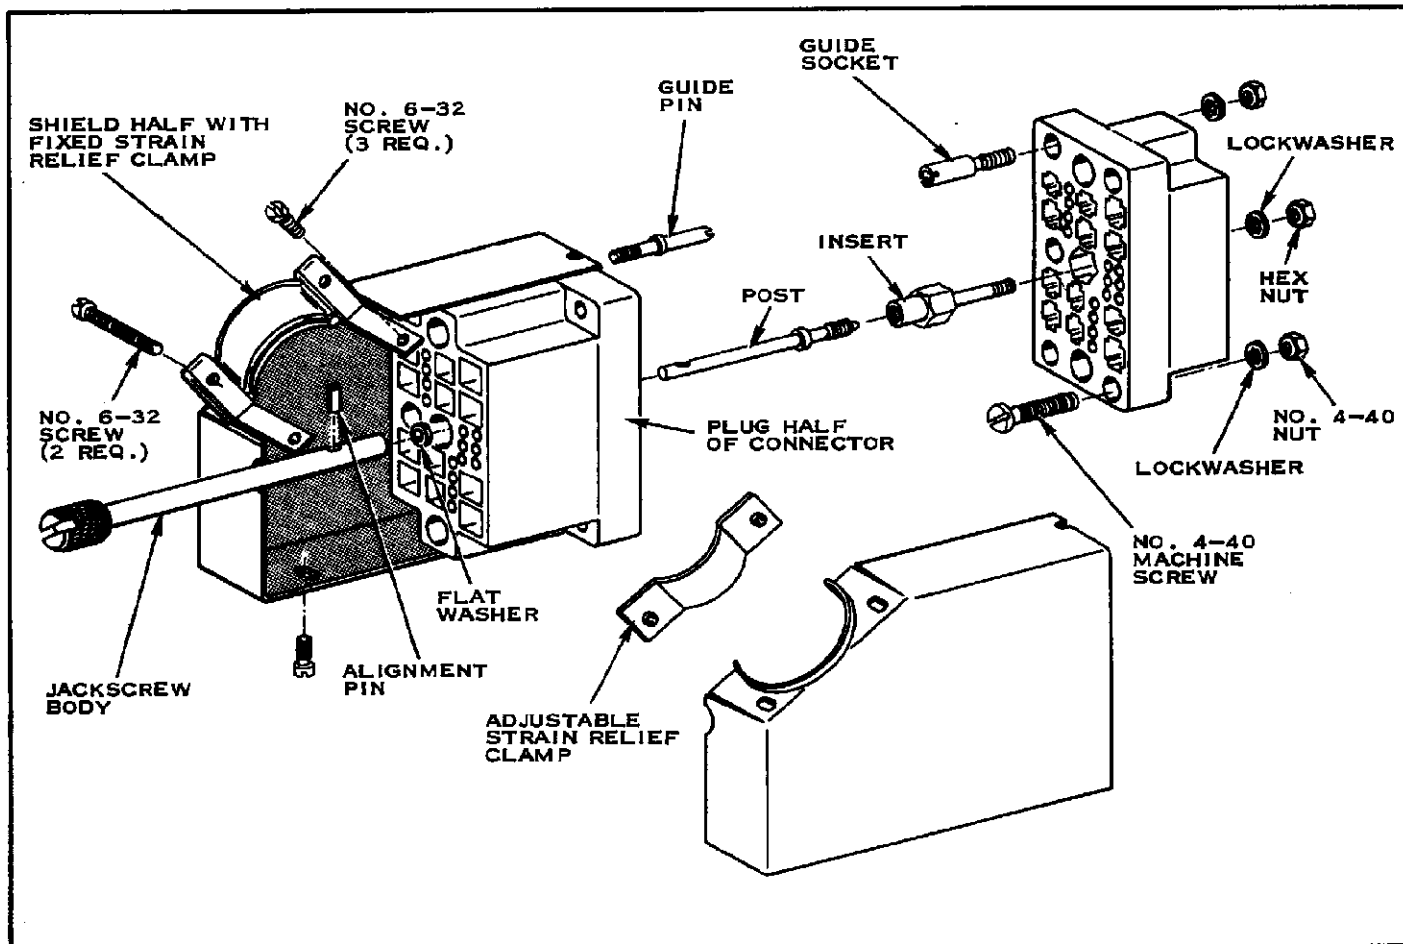

FIGURE 2
A. Jackscrew Kits (See Figure 2)
D. Shield and Strain Relief Clamp (See Figure 2)